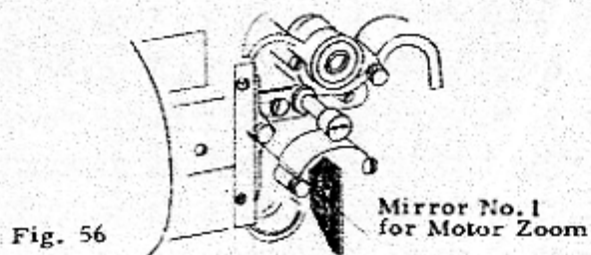

Fig. 56
- 3) Make the adjustment by inserting Washer 33-5190 between Zoom Lens Unit and Aperture Unit. See Fig. 56.